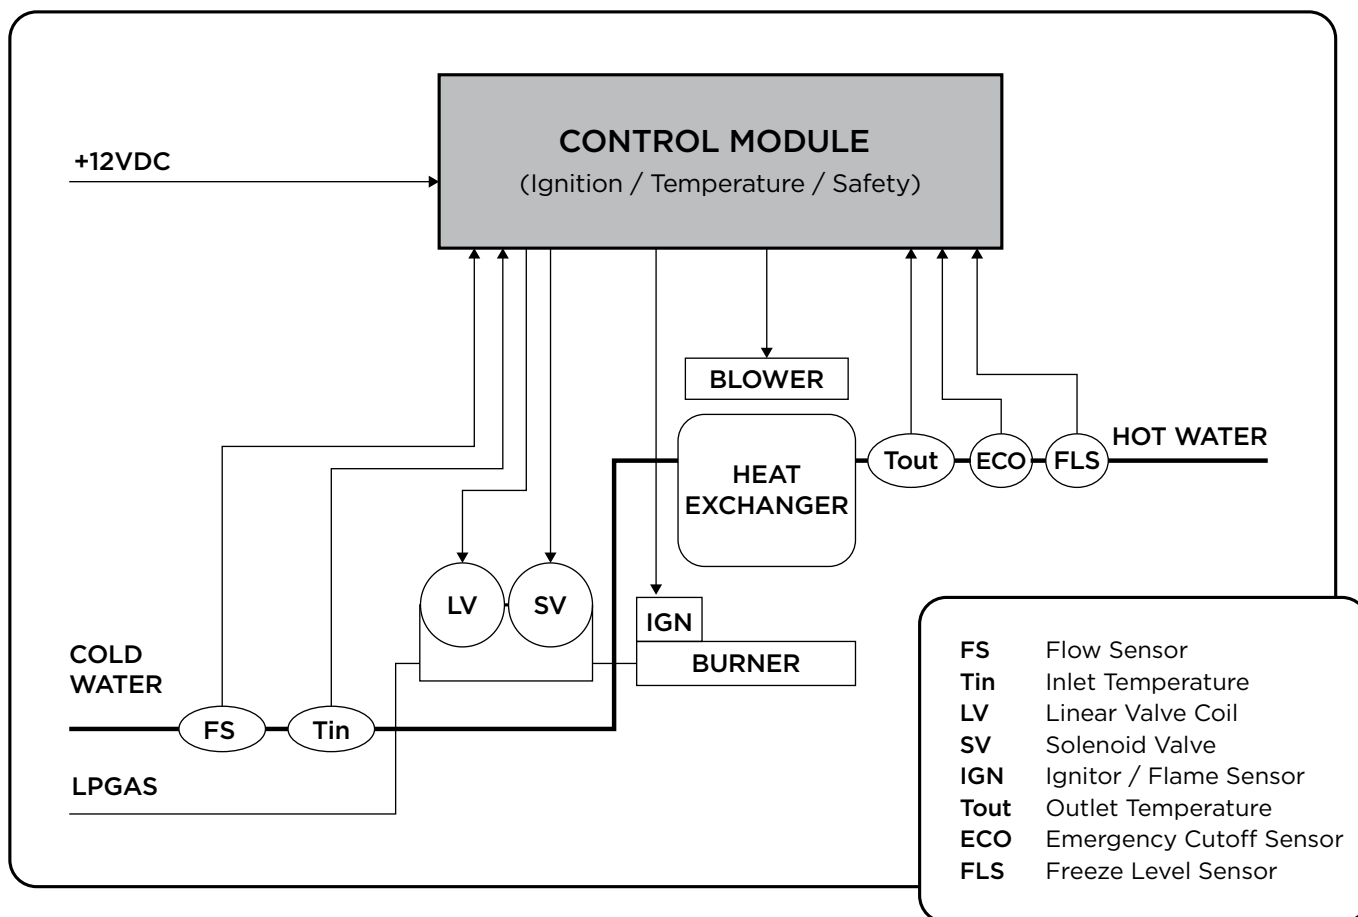

Fig. 5
7. The recommended factory setting is 46 degrees (C).
9. The UCP display will show the following icons: fan, flame and water temperature. See page Figure 5 for icon identifications.